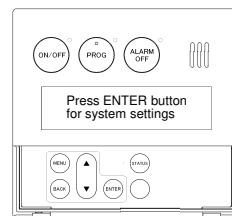

Figure 3: System settings screen
- * If the system settings screen (Figure 3) is displayed, discontinue this procedure and refer to step 6) to 11) in the (Case 2) procedure below to complete the programming correctly.
- 6) In approximately 10 seconds, the system settings screen (Figure 3) is displayed on the remote controller.